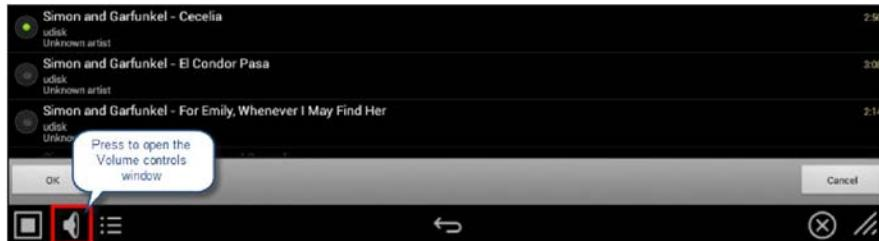

FIG. 20 DEVICE - Sound page - Volume Control Varia
1. In the Sound page, select the Volume Varia (FIG. 20) to open the Music Volumes control window (FIG. 21 on page 30):